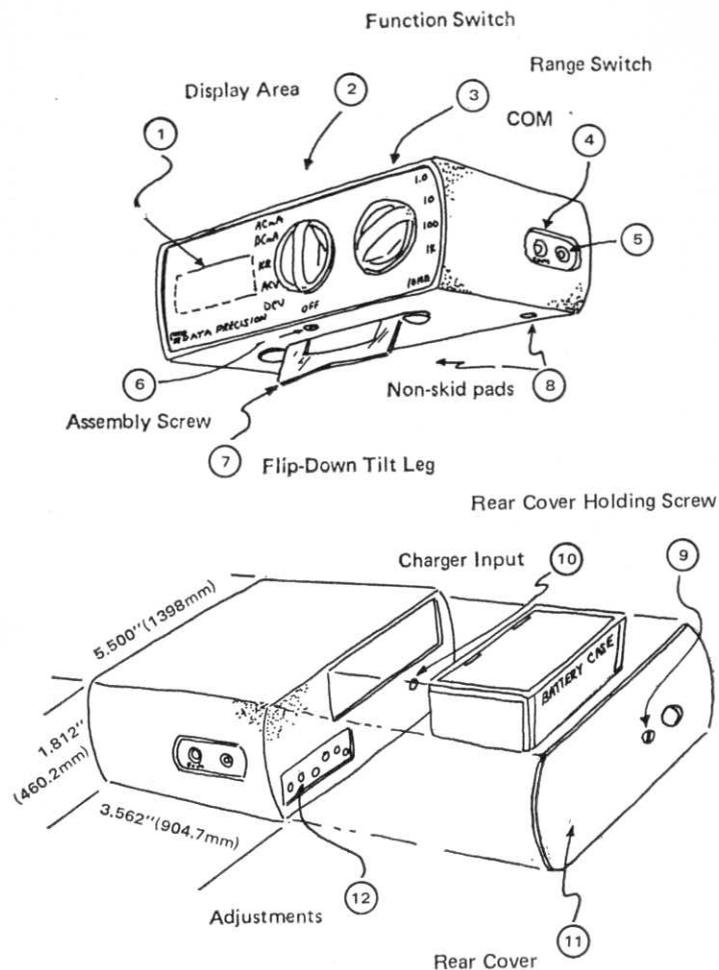

Figure 1. Key Features of Your Model 245 DMM
1. If AC line power is to be used, connect charger to AC source, and attach cord to Charger Input (Figure 1 - Item 10). Battery power is automatic when the Function MODE switch is operated to select a particular measuring mode.
2. Select appropriate measuring function mode (Figure 1- Item 2).
3. Select appropriate full scale range (Figure 1 - Item 3).
4. Connect probes (Figure 1 - Items 4 and 5). Make measurement.
5. Read display (Figure 1 - Item 1).
CALIBRATION adjustments (Fig. 1 - Item 12) are accessible behind the plastic cover (Fig 1 - Item 11).